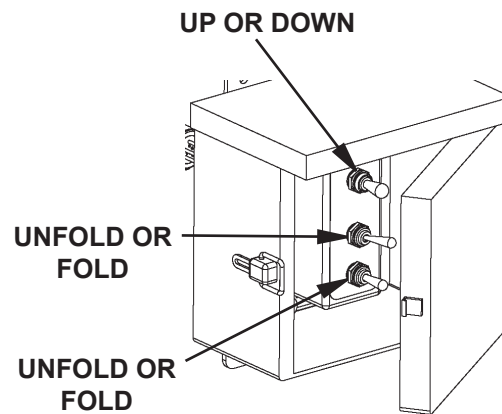

FIG. 7-2
6. To verify correct operation, use the switches in the auxiliary control box to raise (**UP**), lower (**DOWN**), **FOLD** and **UNFOLD** (**FIG. 7-2**) Liftgate.